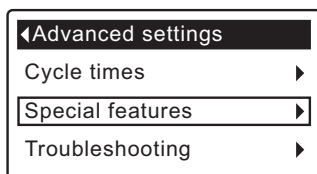

FIG. 74
3. Press the SELECT (O) button to display the Advanced settings menu (See Figure 74).